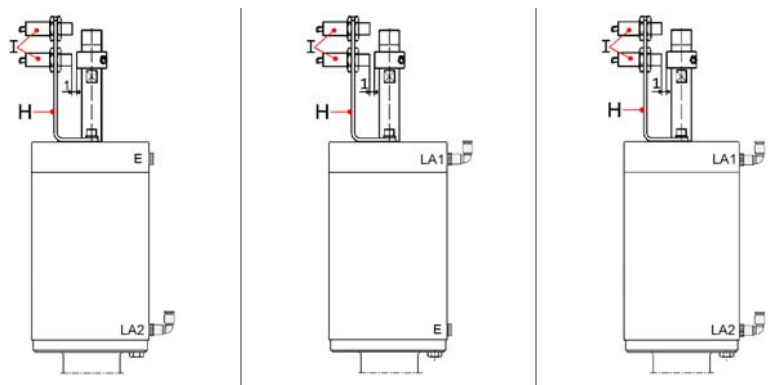

Fig. 2
- Unscrew the cap (14).
- Screw in the mounting tool (MW) as far as possible into the spindle (11).
- Connect the compressed air (P) to the air connection (LA1 air close-spring open) and (LA2 air open-air close) respectively. Fig. 2 /Page 6